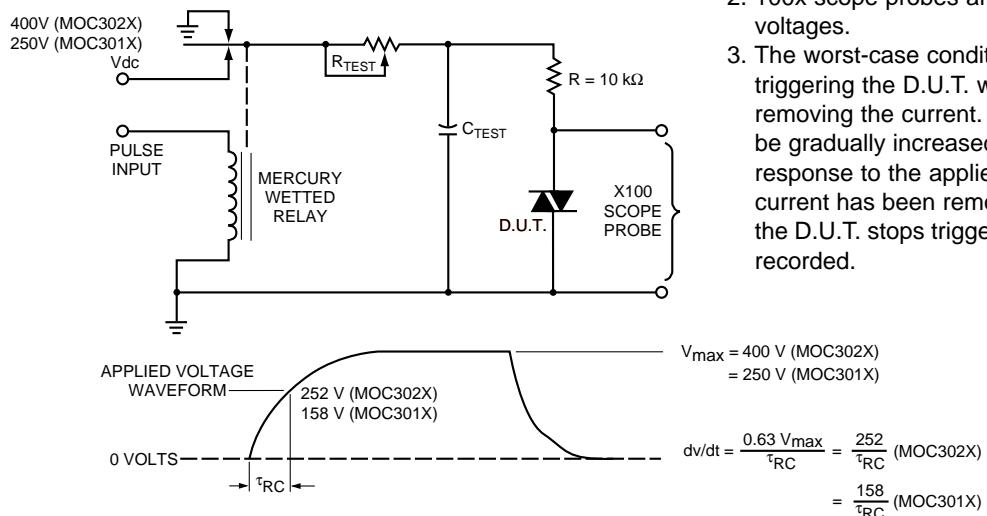

Figure 5. Static dv/dt Test Circuit
2. This is static dv/dt . See Figure 5 for test circuit. Commutating dv/dt is a function of the load-driving thyristor(s) only.
Fig. 5 dv/dt vs. Temperature